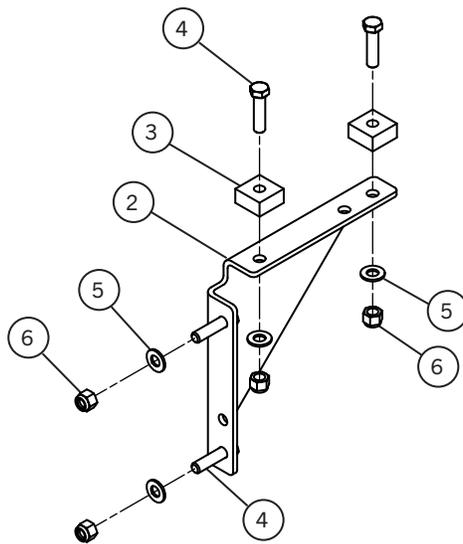

Figure 7-1
- 3) **Figure 7-1.** Attach mounting brackets with rubber bushings (3), 1/2-13 x 2 hex bolt (4), 1/2 flat washer (5), and 1/2-13 nylon hex nut (6). Tighten until bushings compress to approximately 3/8" to 1/2".